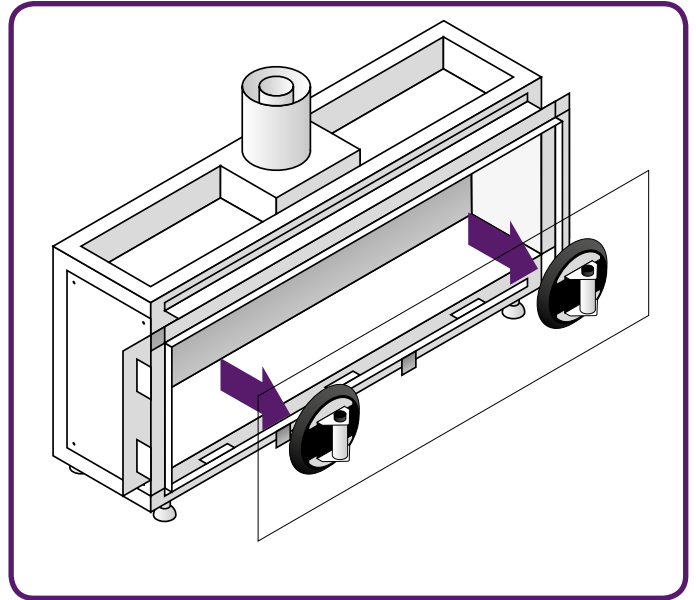

Figure 10.6 - Removing the suction cup
- Lift the glass out of the lower glass rail and tilt it out through the opening, as seen in *Figure 10.6*.